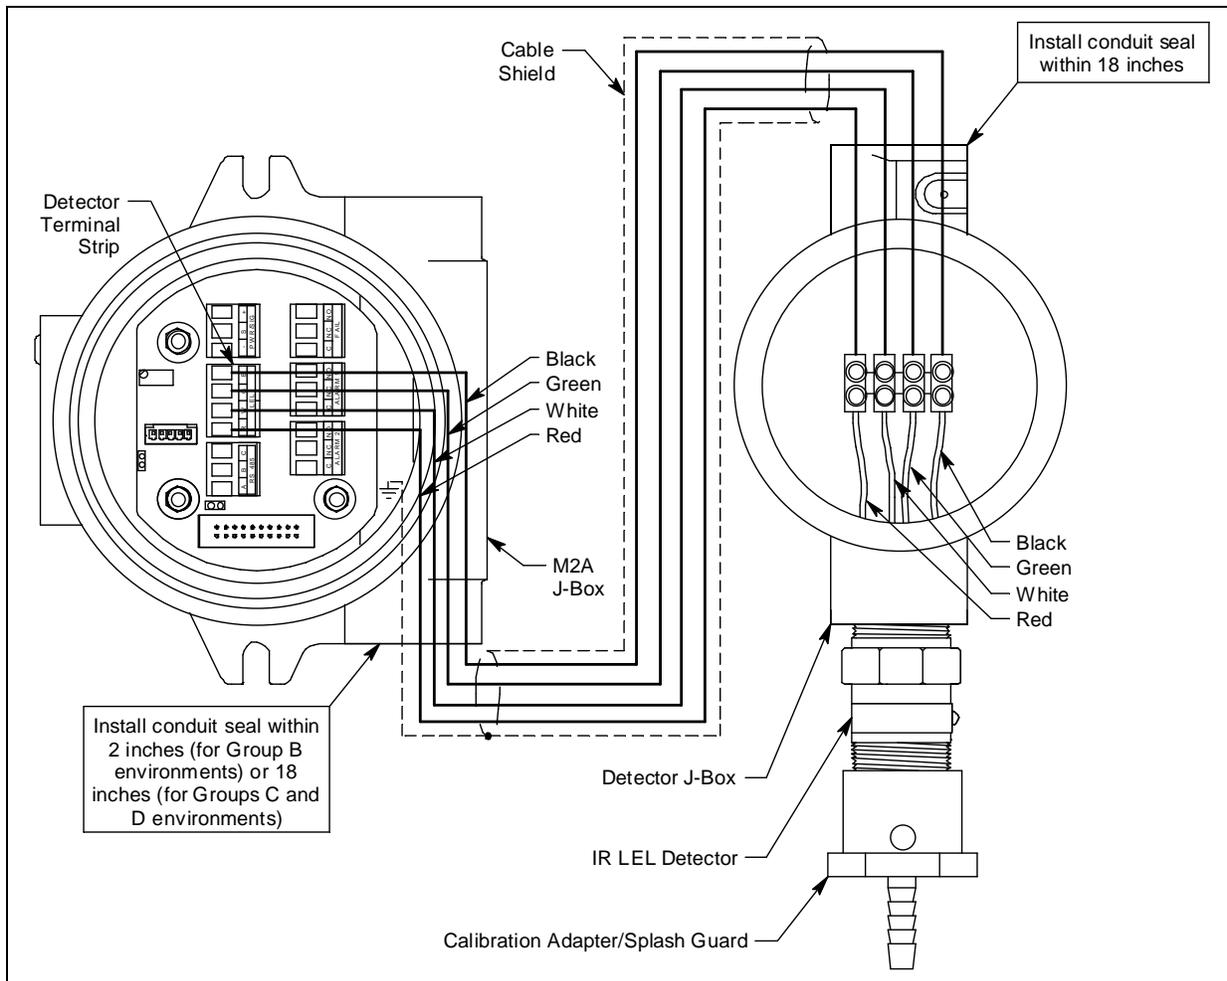

Figure 7: Wiring the Detector to the M2A
7. To maintain the explosion proof classification of the junction boxes, conduit seals must be installed as shown in Figure 7. Adhere to your local electrical code when installing the conduit seal.
13. Pull out the detector terminal strip and connect the four wires to the terminal strip as follows (see Figure 7).
1. To maintain the explosion proof classification of the M2A junction box, a conduit seal must be installed within 2 inches (for Group B environments) or 18 inches (for Groups C and D environments) of the M2A’s left conduit hub, in addition to the conduit seals shown in Figure 7. Adhere to your local electrical code when installing the conduit seal.